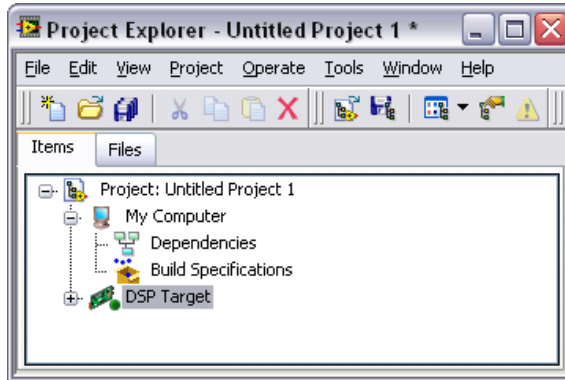

Figure 10. Renaming the Target in the Project
2. Enter DSP Target in the text box and press the <Enter> key to change the name of the target, as shown in Figure 10.